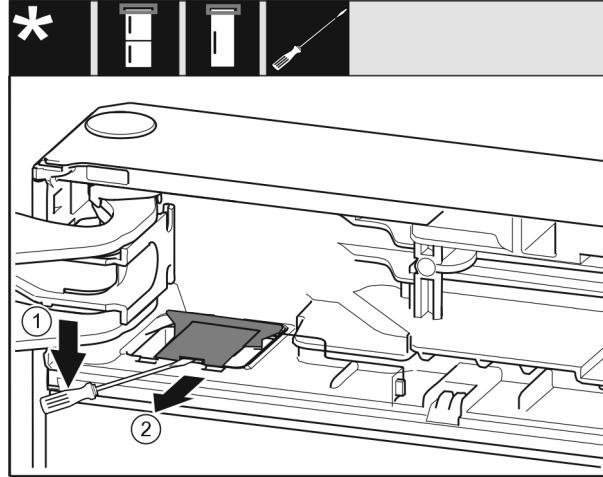

Fig. 9
► Unlatch the cover with a slotted screwdriver and lift it up. Fig. 9 (1)
► Take out the cover. Fig. 9 (2)